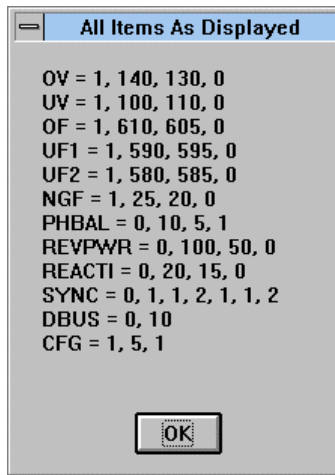

Figure 5-6. Snapshot Format
**on Screen** or **As Received from Relay**. displays a snapshot of the relay or screen settings in a single line, compact format. Figure 5-6 illustrates that format.